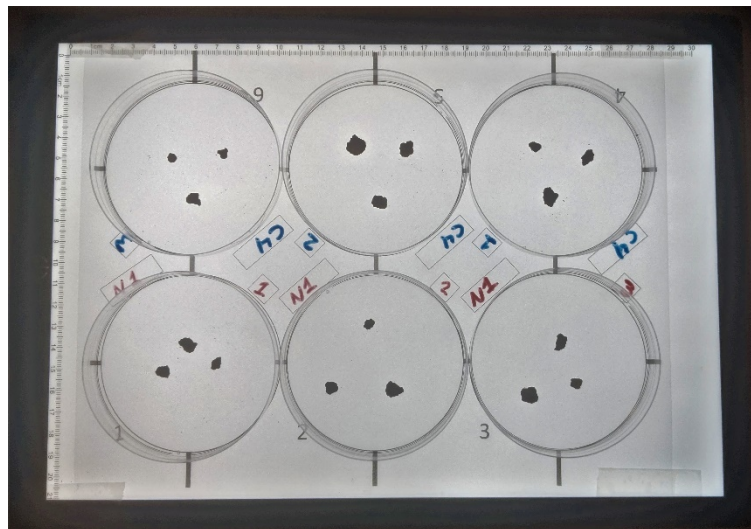

Figure 2. Position and labeling of Petri dishes for two soil samples in triplicate.
- f. Place empty Petri dishes in all six positions. Aggregates for a single soil sample will be analyzed in triplicate (i.e., three separate Petri dishes), so two unique soil samples can be analyzed per batch of six. Place three aggregates of the first sample in a triangle in each of three Petri dishes. Repeat for the second sample in the remaining three Petri dishes. Label each Petri dish with its respective sample ID by writing on the transparency with a dry-erase marker (Fig. 2) or placing a printed label near the Petri dish. Ensure that the sample ID and Petri dish position number are legible within the smartphone camera app.